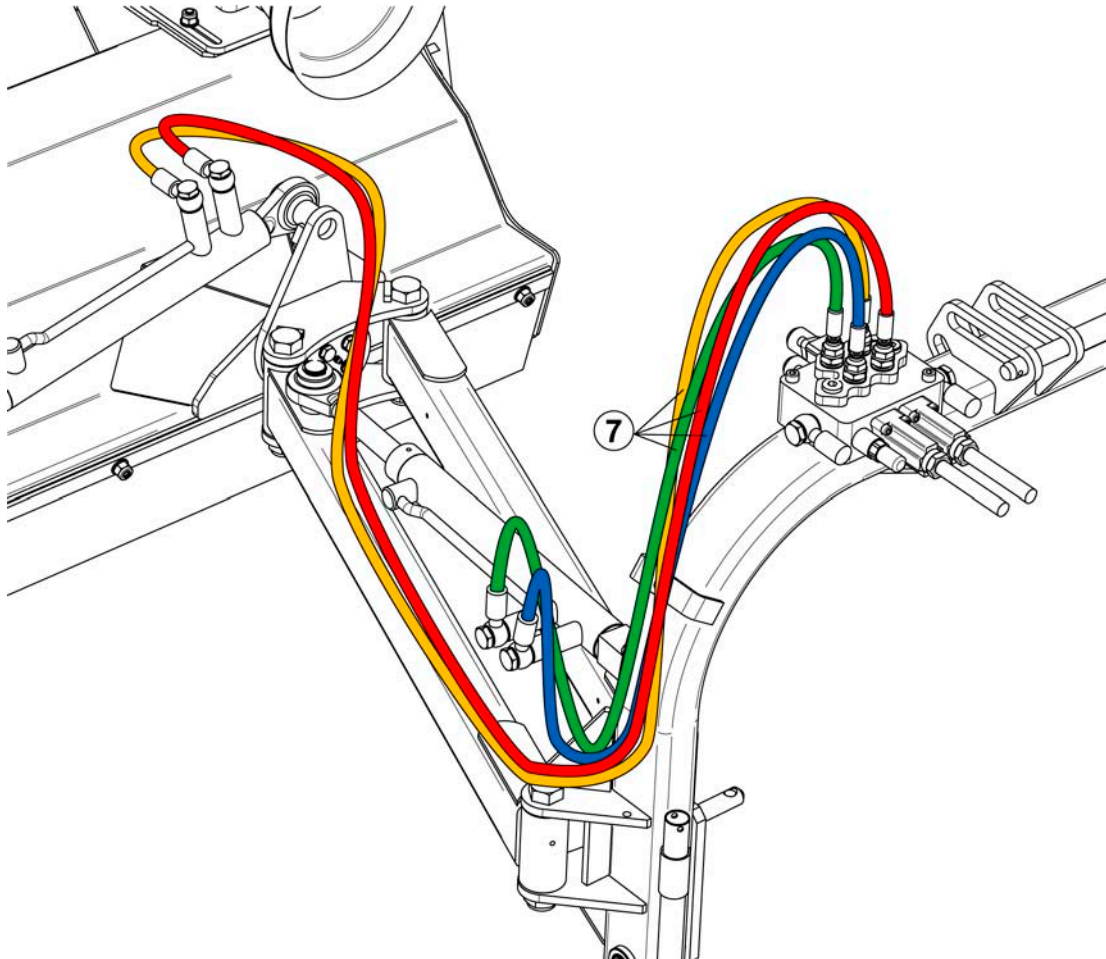

FIG. 11.3
- Connect the pipes (7) to the distributor as indicated in the figure, after having screwed onto the distributor the four adapter couplings 3/8" G - 1/4" G with the respective sealing washers (Fig. 11.3).
**The floating element (F) must be connected to the hydraulic ram for orientation of the shredder (1) (see Chapter 6).**